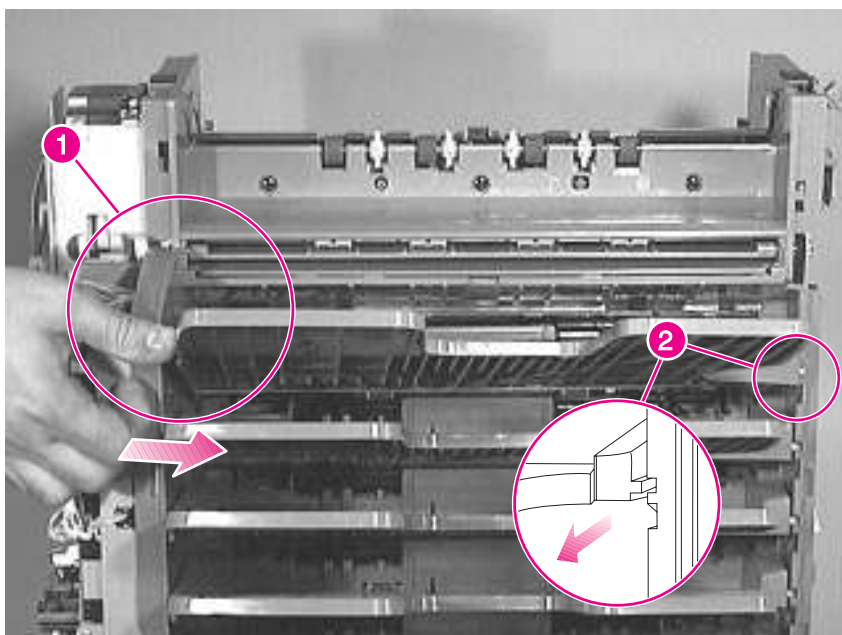

Figure 6-130 Face-down Bins (2 of 3)
- 1 Guide the empty bin sensor in the slot at the back side (figure 6-130, callout 1).